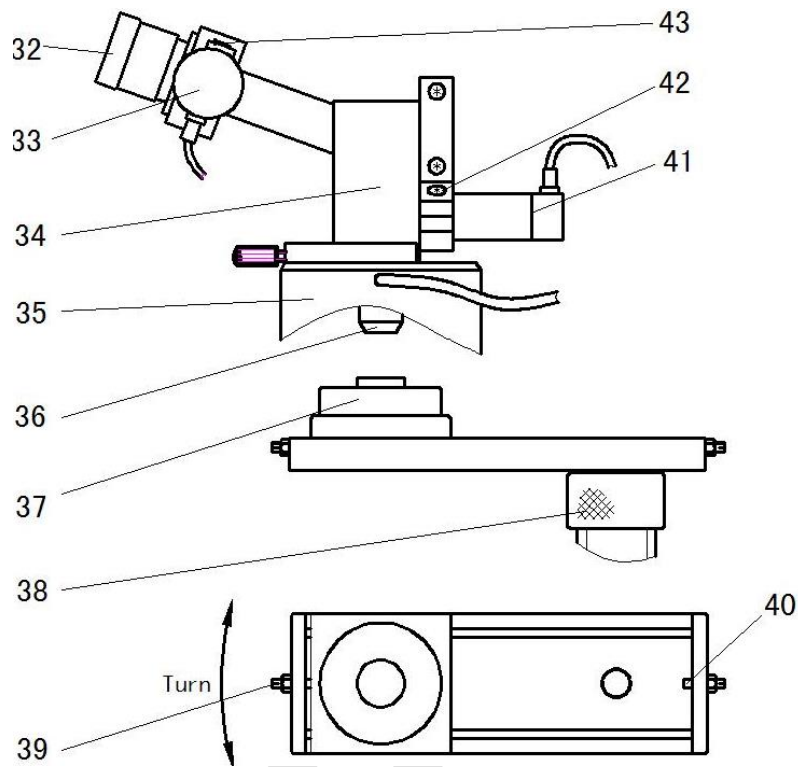

Fig. 7-1
5.1 Take out the moveable anvil and rub-up antirust oil, install the moveable anvil and circumrotate the locknut (Fig.7-1) ;